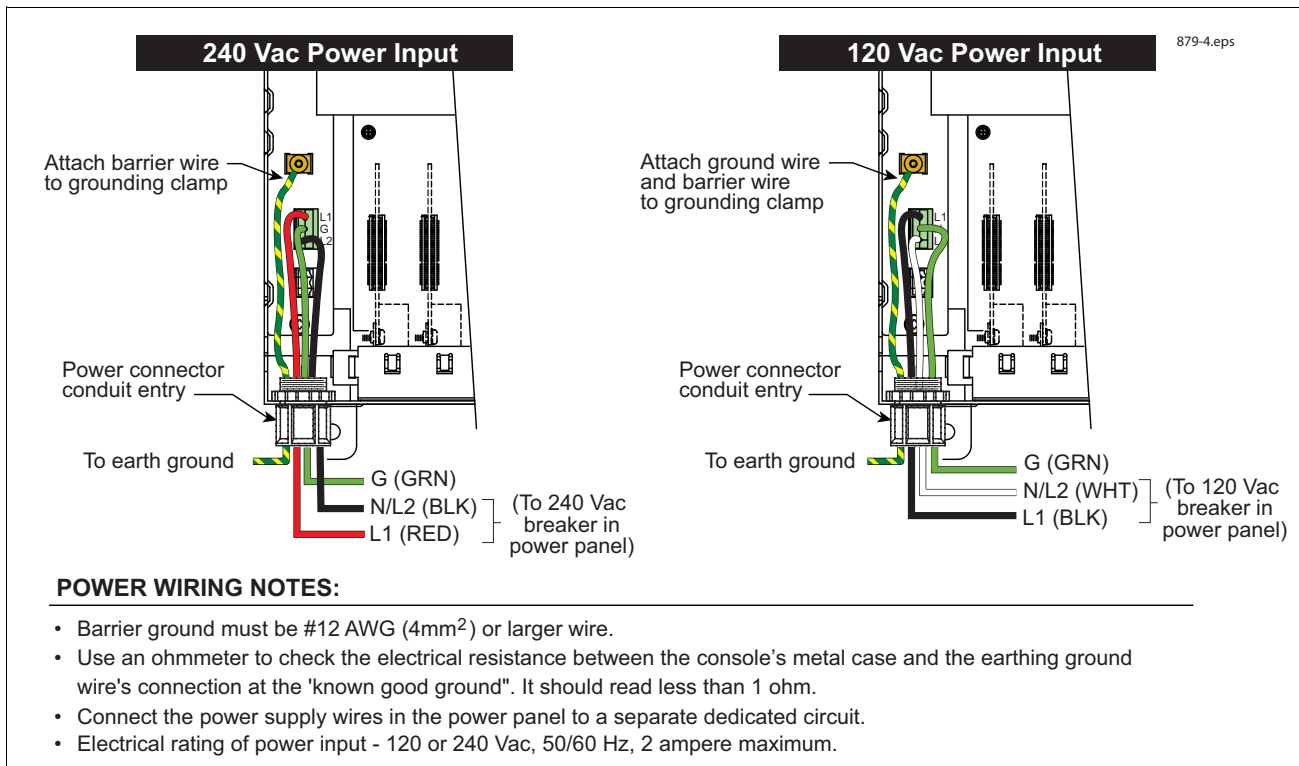

Figure 43. Wiring AC Power to the TLS-450 Console
2. Connect the input 120 or 240 Vac power wires as shown in Figure 43.